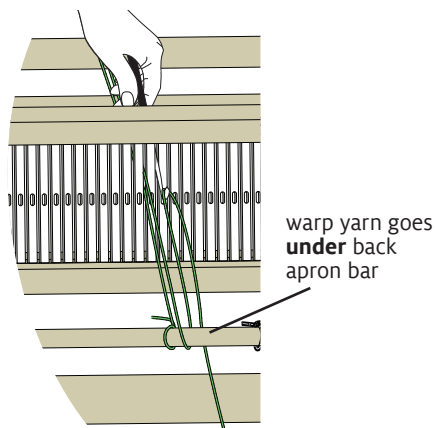

FIGURE 10: SECOND LOOP
6. From the front of the heddle, pull the next loop of yarn **under** the back apron bar and through the next slot in the rigid heddle (Figure 10). Place the loop over the warping peg. Do not twist the loop.